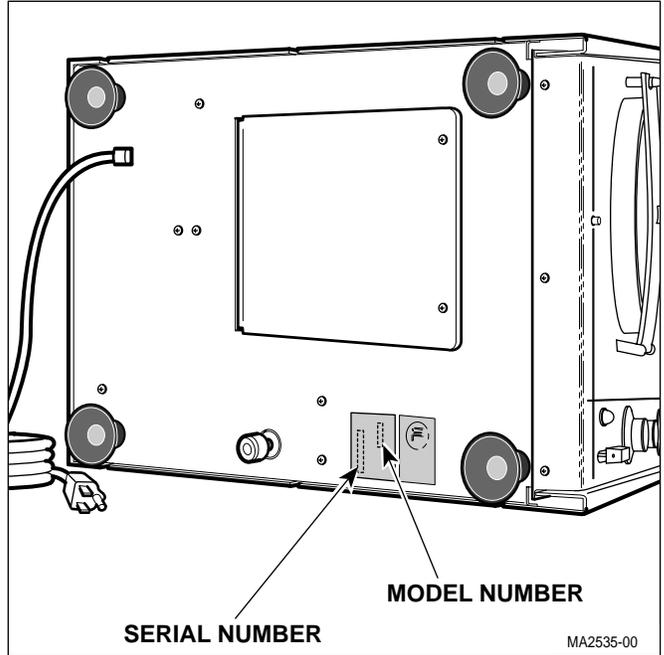

Figure 1-2. Model Number / Serial Number Location
- (1) Refer to Figure 1-2 to determine the location of the model number and serial number of the sterilizer and record this data. There are different letter prefixes which proceed the serial number, depending on the configuration of the unit. These prefixes are very important and are needed to order the proper parts.
- (2) Refer to the Parts List to determine the item numbers of the parts, part numbers of the parts, descriptions of the parts, and quantities of parts needed and record this data (Refer to para 6.1).